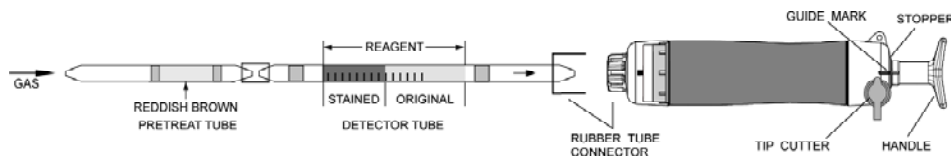

Fig.1
- ① Break both ends of detector tube and pretreat tube, and connect each end of the detector tube and pretreat tube with rubber tube connector as shown in Fig.1.
- ② Insert the detector tube into aspirating pump securely as shown in Fig.1 (Arrow mark shall point to the pump.)
- ③ Align the guide marks on the shaft and stopper of the aspirating pump.
- ④ Pull the pump handle at full stroke until it locks and wait for 1.5 minutes or until the completion of sampling is confirmed with the flow indicator of the pump (See descriptions about the flow indicator in the instructions of the pump).
- ⑤ On completion of sampling, read the scale at the maximum point of the stained layer.